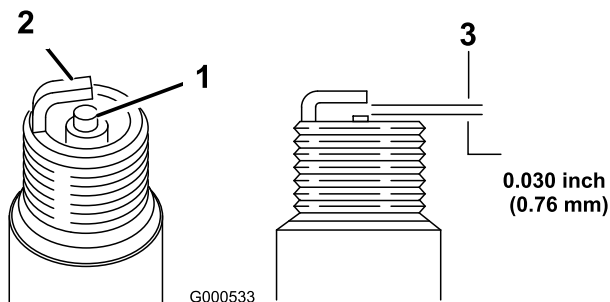

Figure 34
1. Inspect the spark plug (Figure 34).
2. Check the gap between the center and side electrodes (Figure 34). Bend the side electrode if the gap is not correct.